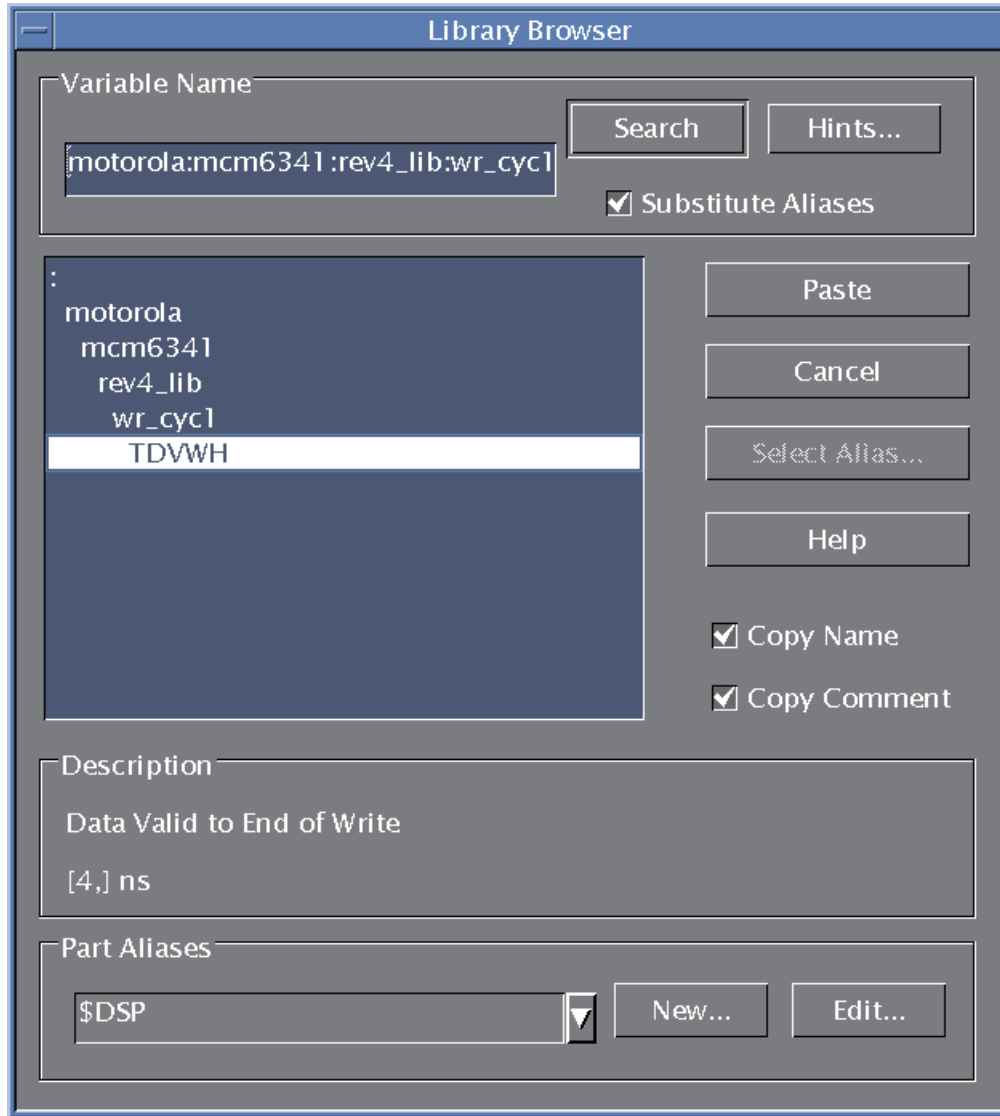

Figure 5. Browse for Library
- In the library browser window, locate the appropriate library timing file, as shown in **Figure 5**. The TDVWH timing is in the wr_cycl library, which is saved in motorola/mcm6341/rev4_lib directory. Select **Paste**, which directs TimingDesigner to refer to this library for the value of this timing constraint specification. (If other libraries are available, you can swap among them by changing the path alias value in the parameter window.)